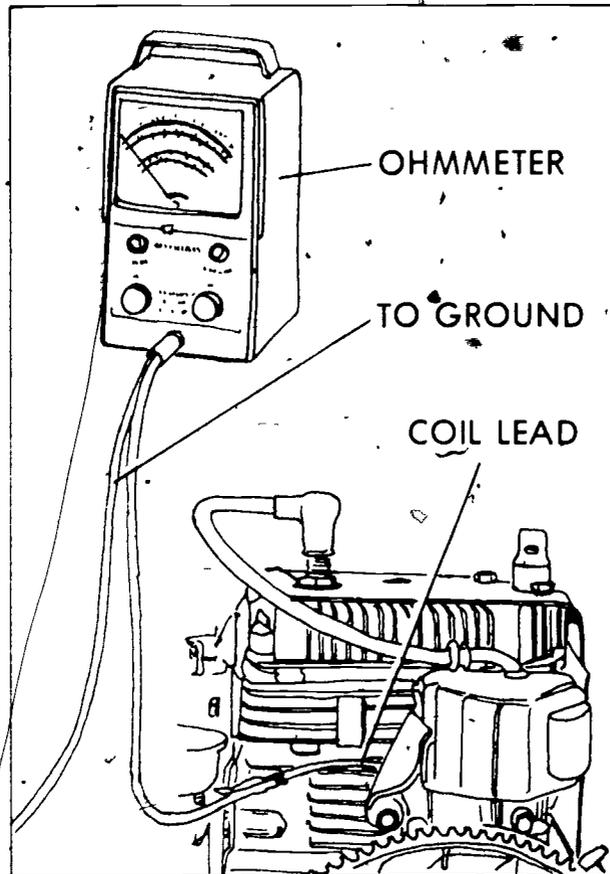

FIGURE 2
- E. Insert one ohmmeter lead in coil terminal and the other to the coil mounting bracket (Figure 2)